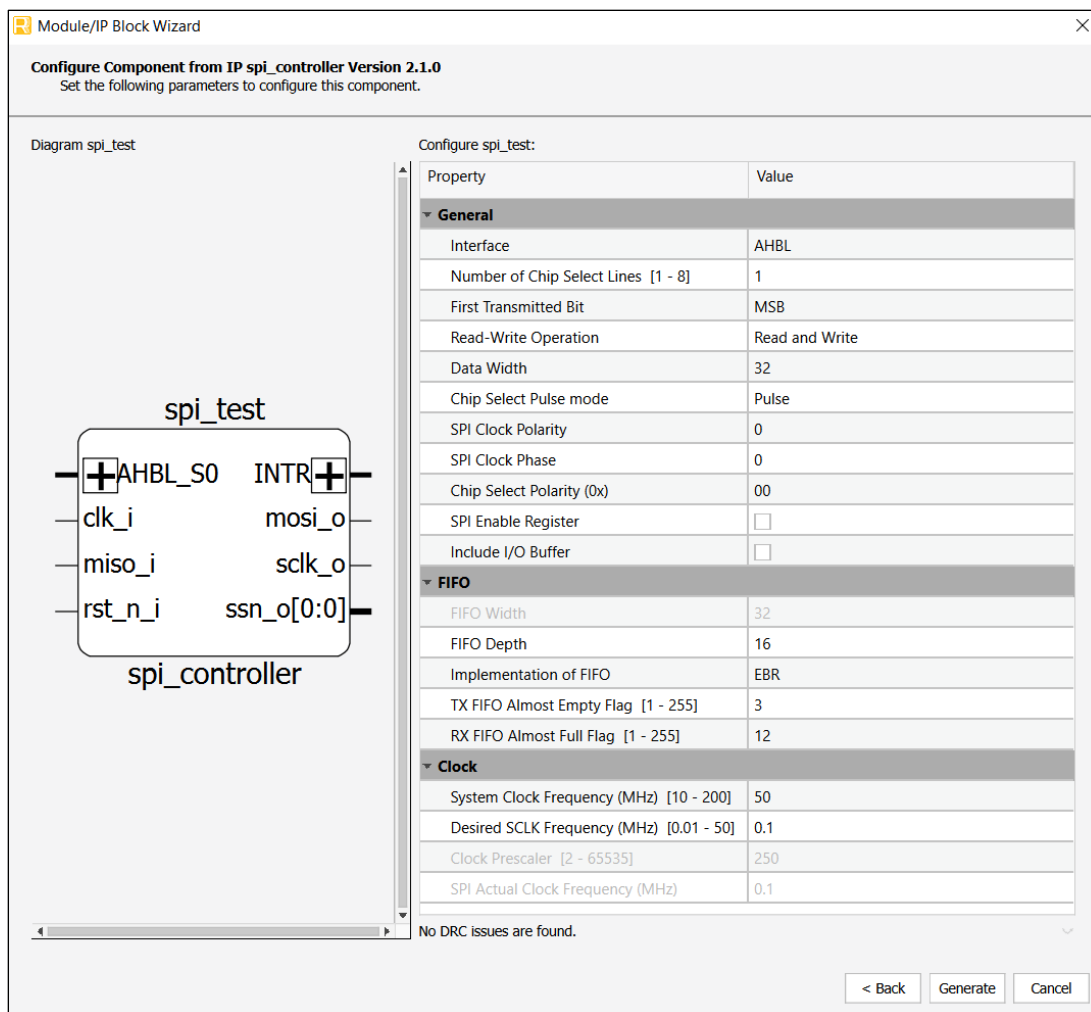

Figure 7.2. IP Configuration
3. In the **Module/IP Block Wizard** window, customize the selected SPI Controller IP using drop-down menus and check boxes. Figure 7.2 shows an example configuration of the SPI Controller IP. For details on the configuration options, refer to the IP Parameter Description section.